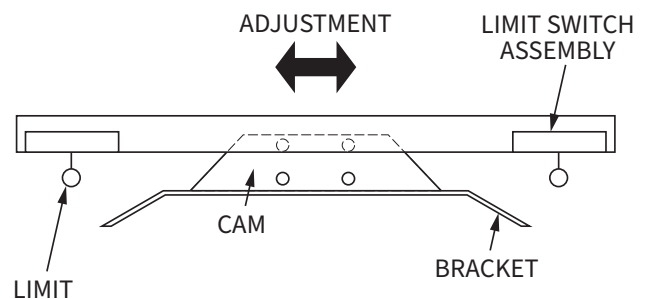

Figure 25: Adjusting Limits (Top View)
7. Test the reversing edge on the active door panel while the door closes by pushing on the rubber profile (Figure 25). The door should stop and reverse when the edge is activated during the closing cycle.